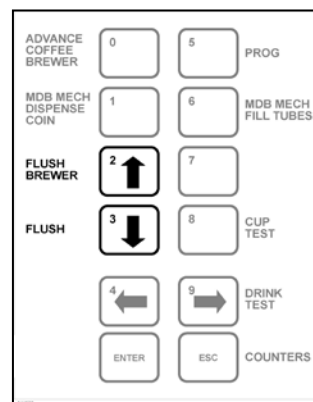

Figure 10b
2. Press **FLUSH** button. See Figure 10b. The Machine will flush all the **whipper** and **mixing bowls** with clean hot water.
3. Press the **BREWER FLUSH** button. See Figure 10b. The Machine will flush the brewer(s) with clean hot water.